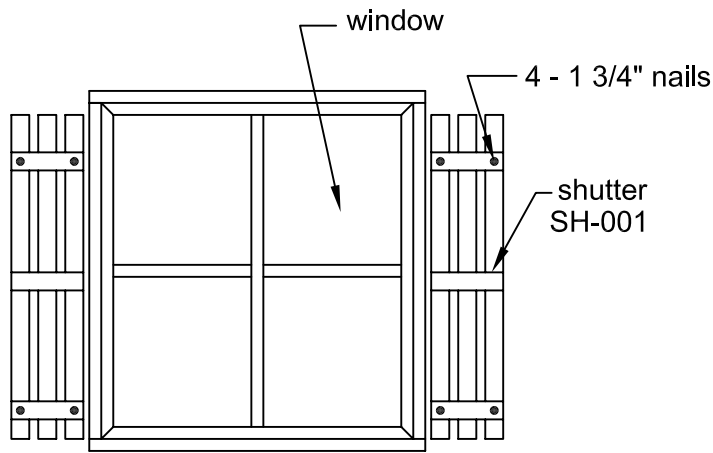

FIGURE S30
- Attach the shutters with 1 3/4" finishing nails. Predrill the shutters with the 1/16" drill bit. See Figure S30.